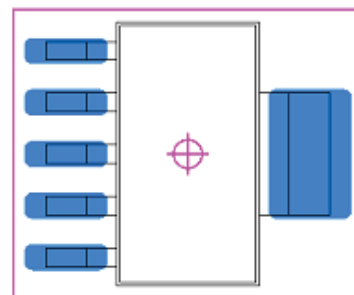

Figure 9: 6-pin 1.27 mm pitch SOT223 land pattern
- 1.27 mm Pitch - See Figure 9.